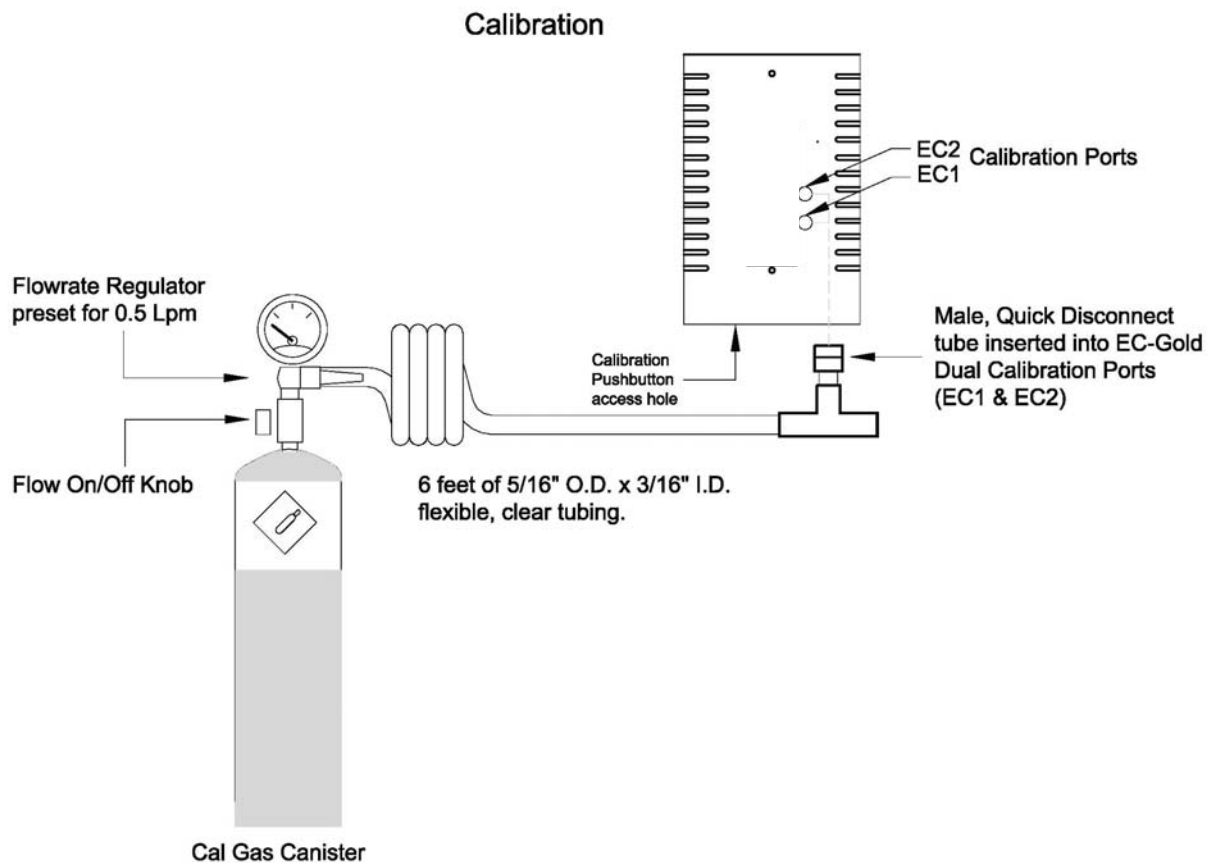

Figure 4.1
The **Calibration** pushbutton may be accessed using a screwdriver or other fine tool – See Figure 4.1 for the location of the access hole.
2. The gas sensor is mounted directly behind the Calibration Port in the middle of the front plate of the EC-Gold Dual housing [See Fig. 4.1]. Insert the Quick Disconnect tube into the EC-Gold's Dual Calibration Port.
4. Press and hold the calibration pushbutton (via the access hole – see Fig. 4.1) until the Status LED glows orange acknowledging the calibration request. Release the pushbutton.